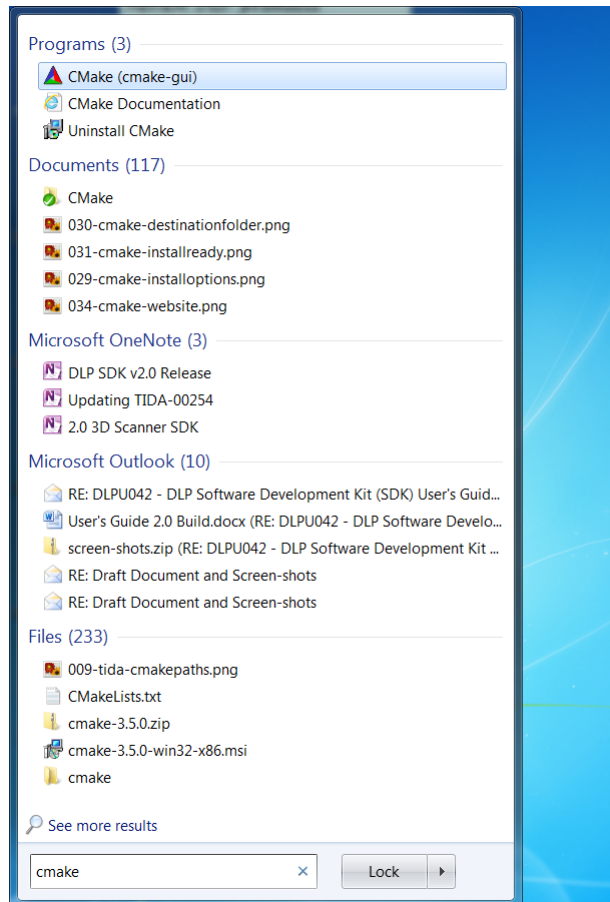

Figure 55. Opening CMake from Start Menu
1. Open the start menu. Search for and run CMake as shown in Figure 55.